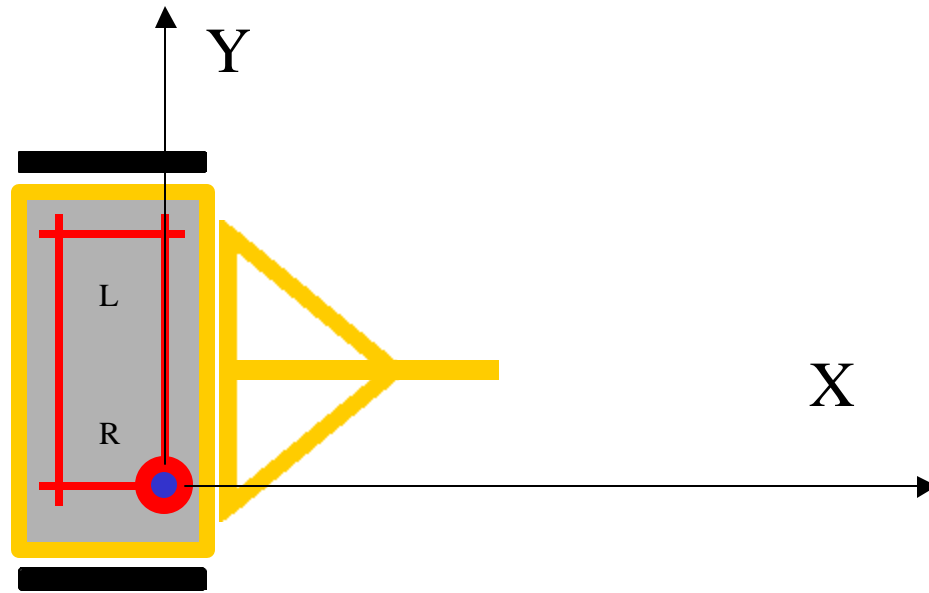

Figure 7: Data Orientation relative to cart.
- 1) Mark your starting position in a way you can refer to, either with tape or spray-paint of a stick etc. The starting line on our antenna is the forward-most line marked on top of the antenna arrays. On this line, the position of the right-most antenna is the defined as (0,0) (Figure 7). It is best to plan your survey with this in mind, especially if you want to make multiple passes and tile them all together in our Super3D Mode.